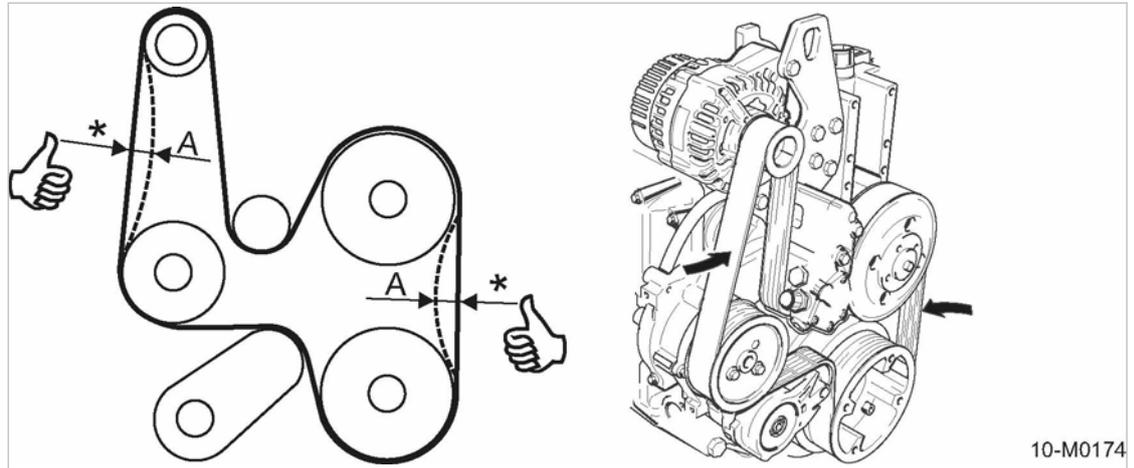

Fig. 57 Manually checking the belt tension
<ol style="list-style-type: none"> 1. Check belt tension with the tension measuring device. 2. Increase the tension on a loose belt. 	<p>Press the belts in with the thumb at the midpoint between pulleys.</p> <ol style="list-style-type: none"> 1. Check belt tension by hand (see Fig. 57). 2. Increase the tension on a loose belt.
3. Check the belt tension (see Fig. 57).